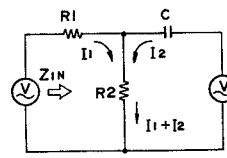

Fig. 14 Equivalent circuit
Assuming that the input and output impedances of an amplifier having a gain of +1 as shown in the basic circuit are infinity (∞) and zero (0) respectively, then an equivalent circuit such as that shown in Fig. 14 is obtained. The manner in which input impedance Zin varies with the different frequencies in this circuit will now be examined.